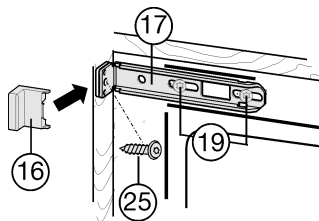

Fig. 28
- Loosen the screws *Fig. 28 (19)* slightly.
- Secure the top mounting bracket *Fig. 28 (17)* with a $\varnothing 4 \times 19$ chipboard screw *Fig. 28 (25)* to the unit wall.
- Break off the protruding end of the cover *Fig. 28 (16)*.
- Tighten the screws *Fig. 28 (19)*.
- Place cover *Fig. 28 (16)* in position.